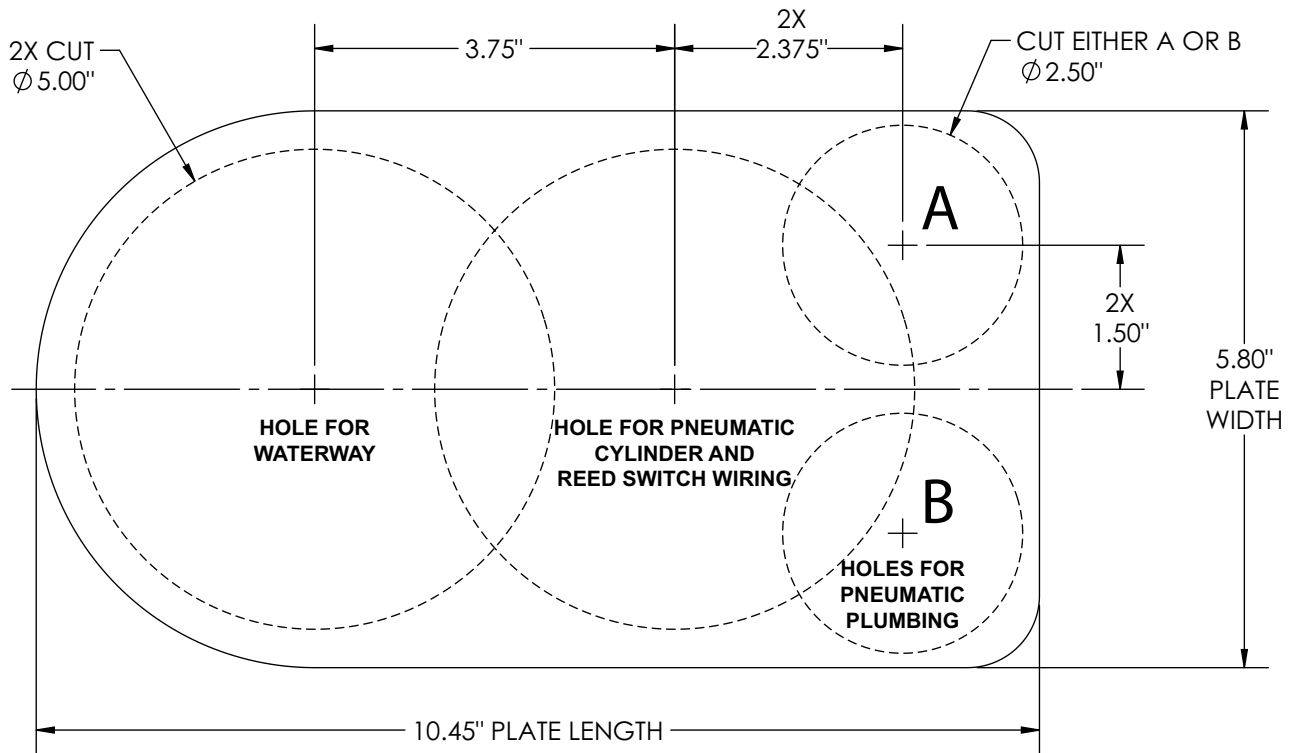

Figure 7.4
Figure 7.4 shows a template for the clearance holes through the deck of the truck. A deck plate surrounding the outer tube of the telescoping waterway is intended to neatly cover the holes. The hole shape is not critical, provided it is not smaller than the circles shown and not larger than the perimeter of the deck plate.
2. Install the top deck, with clearance hole(s) for the telescoping waterway and reed switch wiring per Figure 7.4.